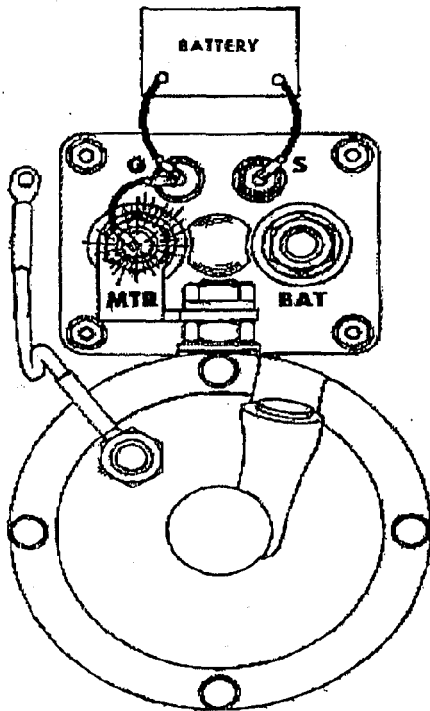

Figure 11—Checking pinion clearance circuit
1. Make connections as shown in Figure 11.
2. Momentarily flash a jumper lead from terminal G to turmoil MTR (Fig. 11). The drive will now shift into cranking position and remain so until the battery is disconnected.